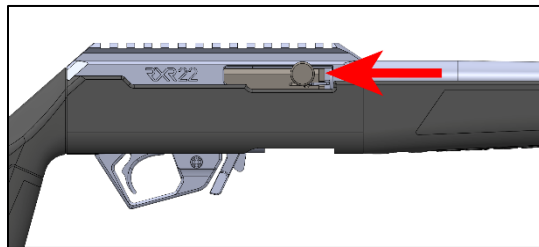

Figure 5
- With your finger away from the trigger and outside of the trigger guard, grasp the cocking handle and pull fully rearward – Figure 5.